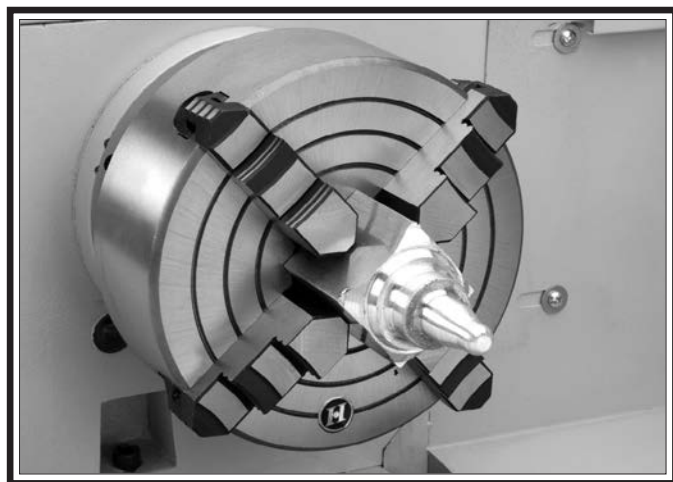

Figure 36. Example photo of non-cylindrical workpiece correctly mounted on the 4-jaw chuck.
- If the workpiece is not correctly centered, make fine adjustments by slightly loosening one jaw and tightening the opposing jaw until the workpiece is correctly positioned (see **Figure 36** for an example).